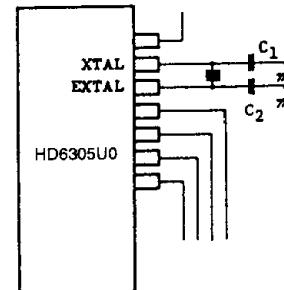

Figure 34 Design of Oscillation Circuit Board
- (1) Locate crystal, ceramic resonator, and load capacity C₁ and C₂ as near the LSI as possible. (Induction of noise from outside to the XTAL and EXTAL pins may cause trouble in oscillation.)
- (2) Wire the signal lines to the neighboring XTAL and EXTAL pins as far apart as possible.
- (3) Board design of situating signal lines or power supply lines near the oscillator circuit as shown as Figure 35, should not be used because of trouble in oscillation by induction. The resistor between the XTAL and EXTAL, and pins close to them should be 10MΩ or more. The circuit in Fig. 34 is an example of good board design.